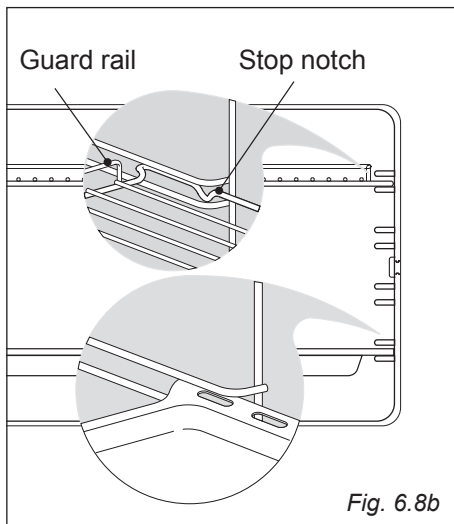

Fig. 6.8b
- Slide the rack into the runners (fig. 6.8b).
The oven tray must be correctly placed on its wire support then inserted into the side runners (figs. 6.8b, 6.9).